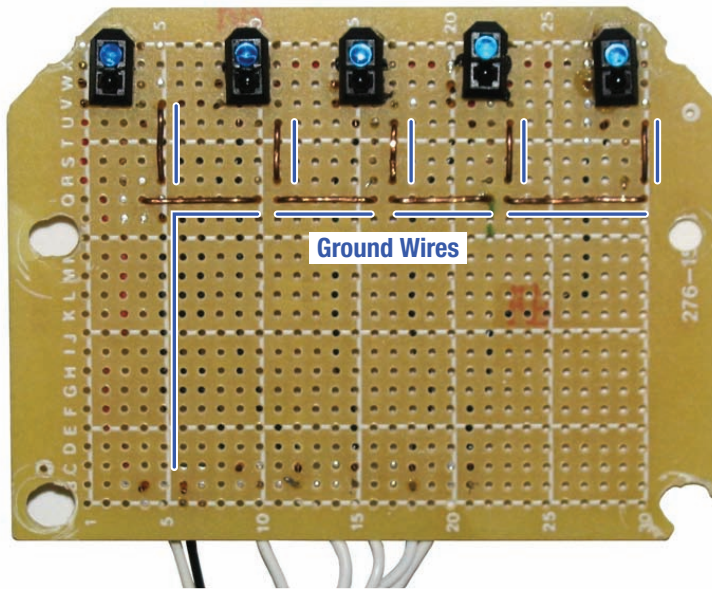

Figure 4-14. The top-side Ground supply wires can be routed on the bottom side if you like, as long as each Ground pad is connected.
7. Connect Ground wires together. I connected the Ground wires together on the other side of the board, but you can place them on the same side as the other wires if you prefer. The ground wires should likewise connect each Ground pad together and then finally the Ground supply wire at the bottom-right of the board (black wire), as shown in Figure 4-14.